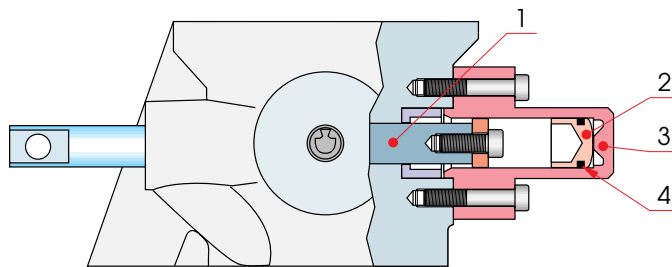

Fig 22-2
22.5.1 Description (Fig 22-2)
b) Air cylinder, Fig 22-2